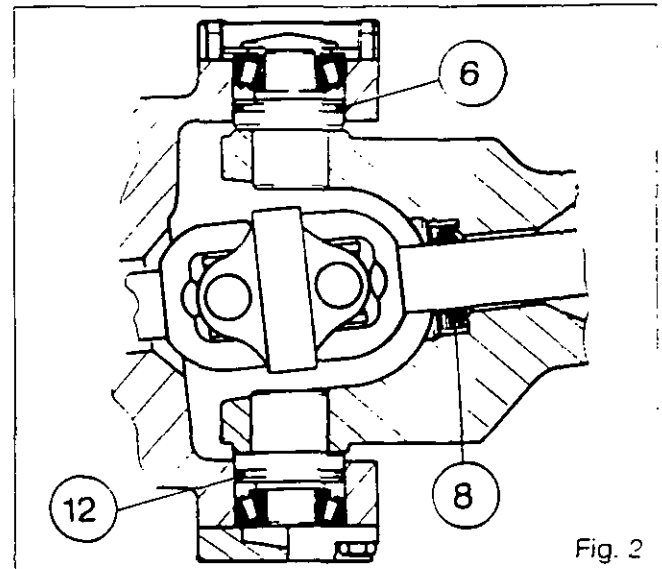

Fig. 2
13. If necessary, remove the seals (8) (Fig. 2)